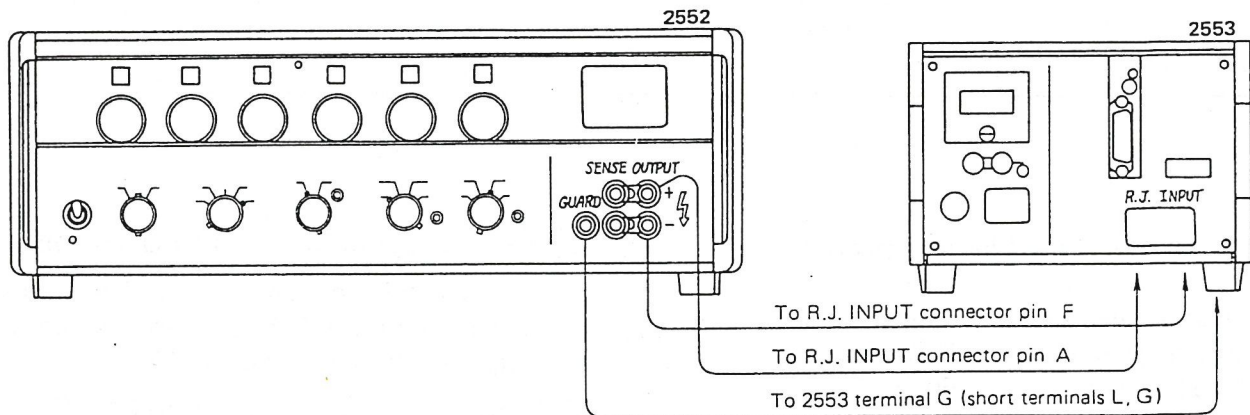

Figure 2-5. Setup for Accuracy Inspection of Reference Junction Temperature Detection.
- See Figure 2-5. Using the Type 2552, apply between the pins A (COM side) and F (- side) of the R.J. INPUT connector on the rear panel of this instrument voltages corresponding to the base-emitter voltages V_{BE} at 0 °C and 50 °C of the temperature probe given in Table 2-5.